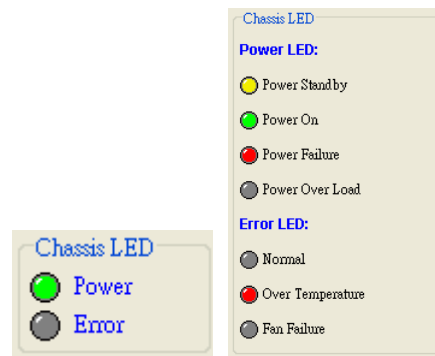

Figure 2-5. Chassis LED and Legend help
3. **Chassis LED:** Figure 2-5 shows the Chassis LED section, which displays the Power and Error LEDs for the SuperBlade chassis. The Power LED shows the current Blade System power status. The Error LED indicates a system over temperature or fan failure condition. The Legend Help box also shows the various states indicated by the Classis LED.